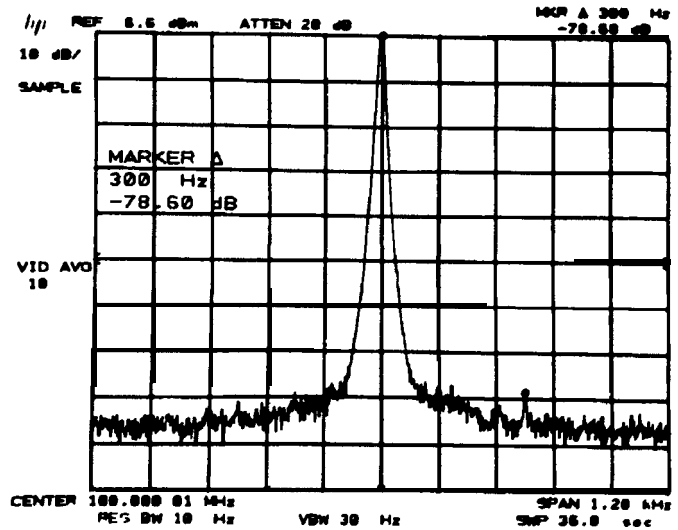

Figure 2-25. Line-Related Sidebands Measurement
8. Press **MARKER** **[PEAK SEARCH]** **[a]** and position the marker at the peaks of the line-related sidebands separated from the signal by multiples of the line frequency (e.g., 120, 180, 240, 300, 360, 420, 480, and 540 Hz for a 60 Hz line frequency). The fundamental line frequency cannot be resolved. Refer to Figure 2-25.